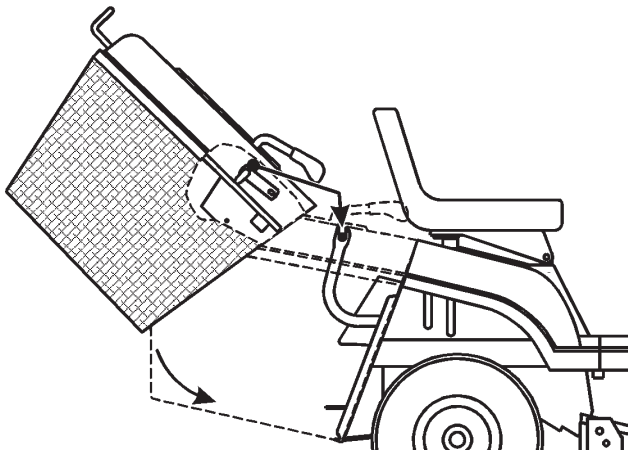

Figure 42
1. Using two hands, tip the grass collector forward (Fig. 42).
2. Tip the collector forward approximately 40 degrees and slide it onto the two support brackets at the rear of the tractor (Fig. 42). Ensure that the arrow on the top of the grass collector aligns with the arrow on the tractor.